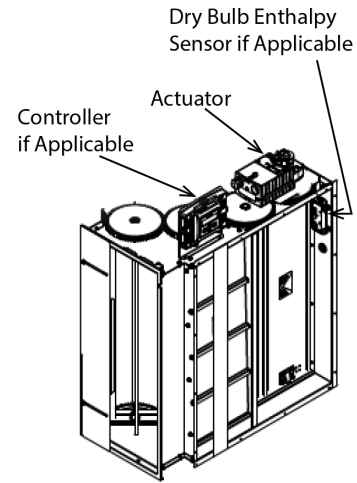

FIGURE 10 - ACTUATOR AND CONTROLLER LOCATION
- Leave the kit supplied filter access panel above the hood off at this point to access the controller and actuator. Controller and actuator are mounted directly to economizer (see Figure 10).